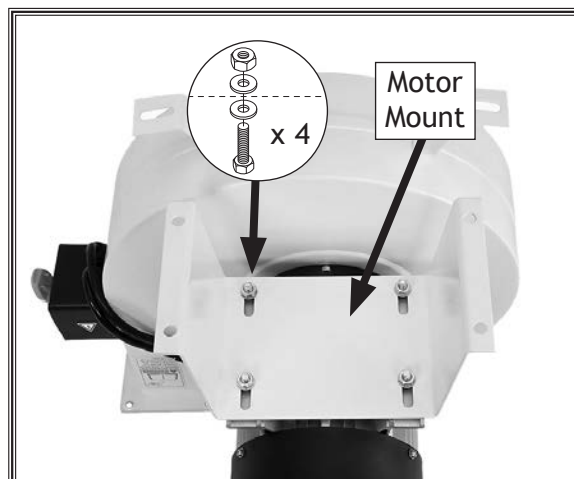

Figure 5. Motor mount attached to motor.
2. With assistance from another person, turn impeller/ motor assembly upside down and attach motor mount as shown in **Figure 5**, with (4) M8-1.25 x 25 hex bolts, (8) 8mm flat washers, and (4) M8-1.25 hex nuts.